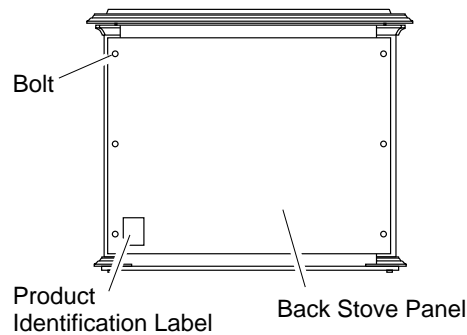

Figure 5 - Removing Back Panel
- Remove back panel from stove (see Figure 5). Use an adjustable wrench or a 10 mm socket. Remove six (6) bolts and washers. Keep bolts and washers to reattach back panel later.
- (1) - Stove bottom
- (4) - Legs (Amity models include leg leveler bolts)
4. If not already removed, remove back panel from assembled stove body (see Figure 5, page 8). Use an adjustable wrench or a 10 mm socket. Remove six (6) bolts and washers. Keep bolts and washers to reattach back panel later.